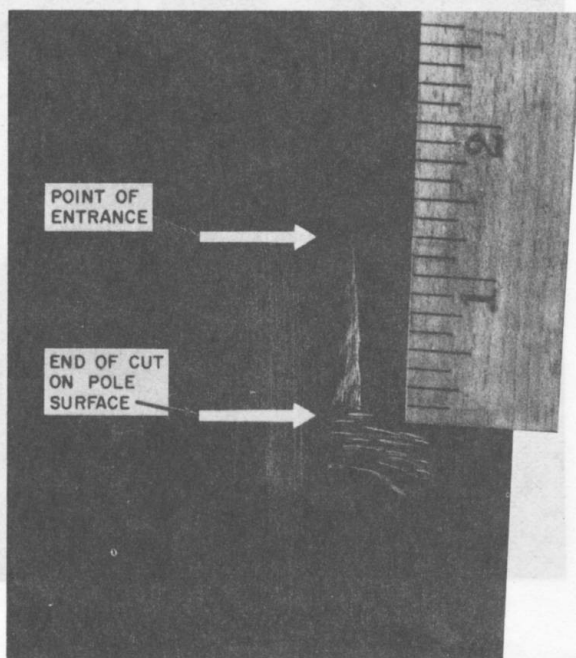

Fig. 15—Measuring Gaff Cut
(4) Making certain the strap loop is held against the pole with pressure from your leg, **gradually** exert full pressure straight down on the stirrup without raising your other foot off the ground, so as to maintain balance if the gaff does not hold.
(5) A gaff, which is correctly shaped and is sharp, will cut into the pole and hold in a distance of 2 inches or less. Measure the cut from point the gaff enters the pole to bottom of cut at surface of pole as indicated in Fig. 15. A gaff that is correctly shaped but dull or burred will cut in and hold but the length of the cut will be more than 2 inches. A gaff, which is very dull or deformed in some way, will cut out of the pole or plow through the wood for a distance greater than 2 inches. ***Do not use climbers that cut out or plow through the wood for a distance greater than 2 inches.*** If the climber gaff is dull, sharpen with a hone, as described in Part 7 and repeat cutout test. If climbers still do not pass the pole cutout test, they are defective and should be replaced.